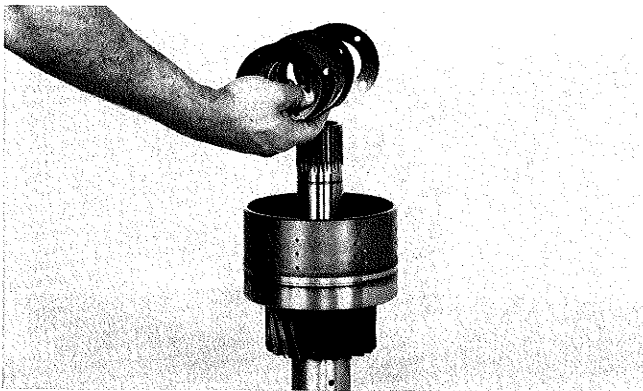

Figure 83
DISASSEMBLY See Note in Figure 83
See NOTE in figure 83. Install disc springs. First spring with large diameter toward spacer. Alternate (5) five washers. **See page 59, Figure C.**